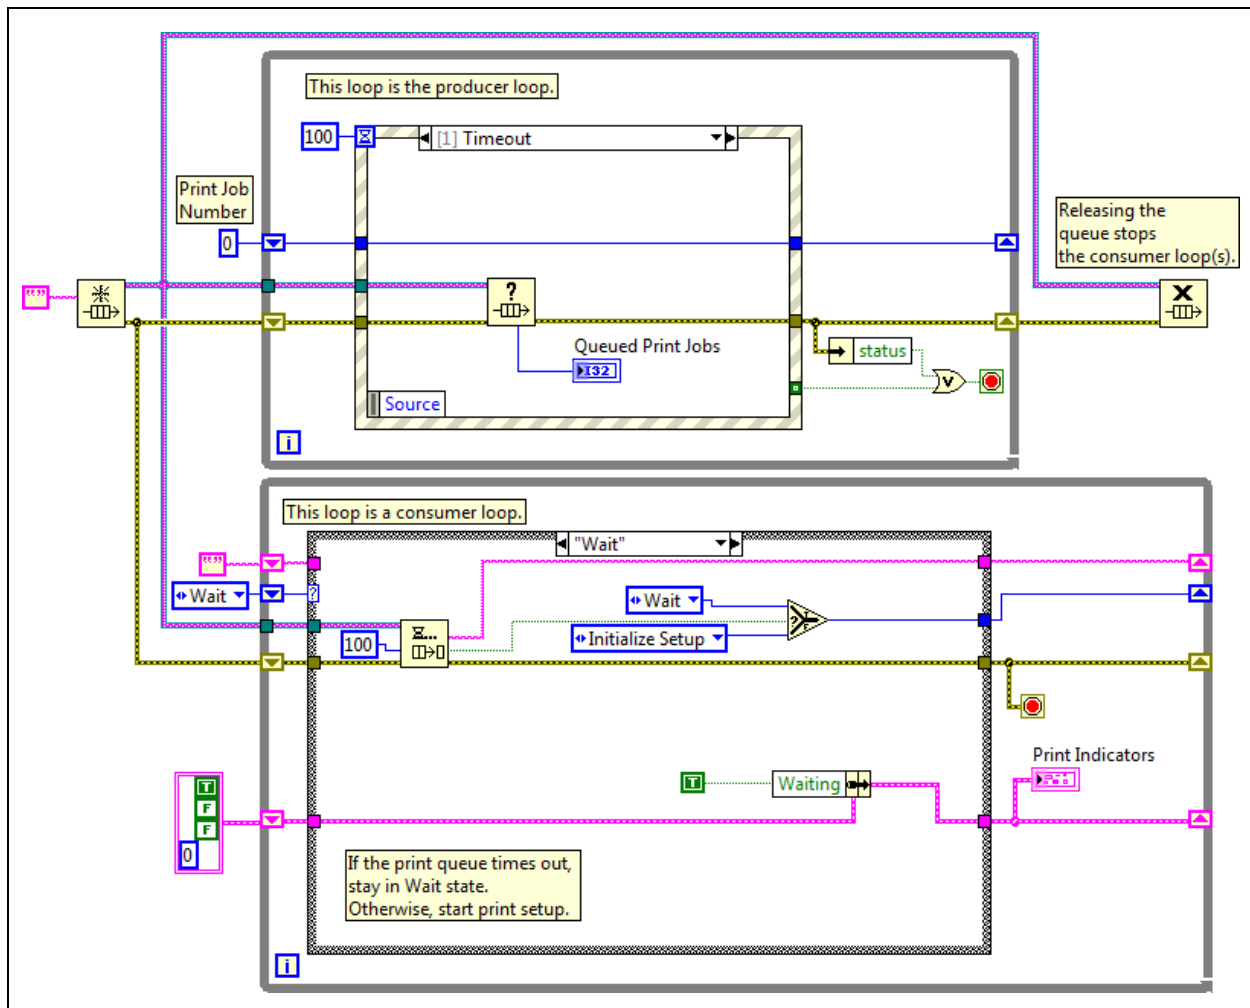

Figure 2. Block Diagram with Error Handling in Consumer Loop
1. Modify the block diagram as shown in Figure 2 to report errors.